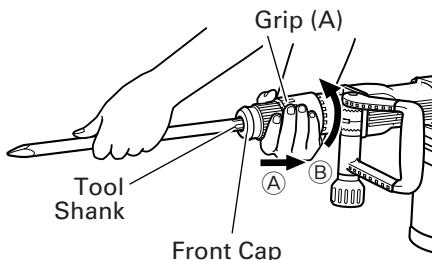
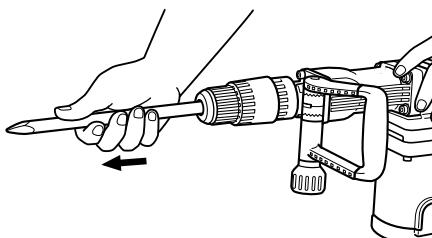

Fig. 2
Fig. 3
- (1) Clean the shank portion of the tool.
- (2) As shown in Fig. 2, pull grip (A) in the direction of ①, and insert the tool into a hole of the front cap while turning in the direction of ②.
- (3) Adjust the groove position while turning the tool, and furthermore insert it until it hits the end of the hole.
- (4) Return grip (A) to its original position, pull the tool to make sure it is locked completely. (Fig. 3)
As shown in Fig. 2, pull grip (A), and pull out the tool while furthermore turned in the direction of ②.